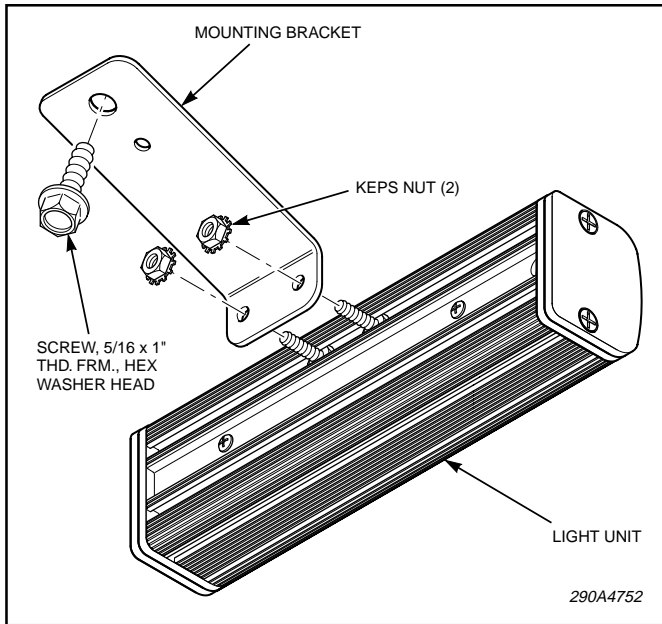

Figure 1.
1. See figure 1. Loosely attach the mounting bracket to the CudaTriOptic light assembly using the hex nuts supplied. Two hex nuts should be used for each mounting bracket assembly.